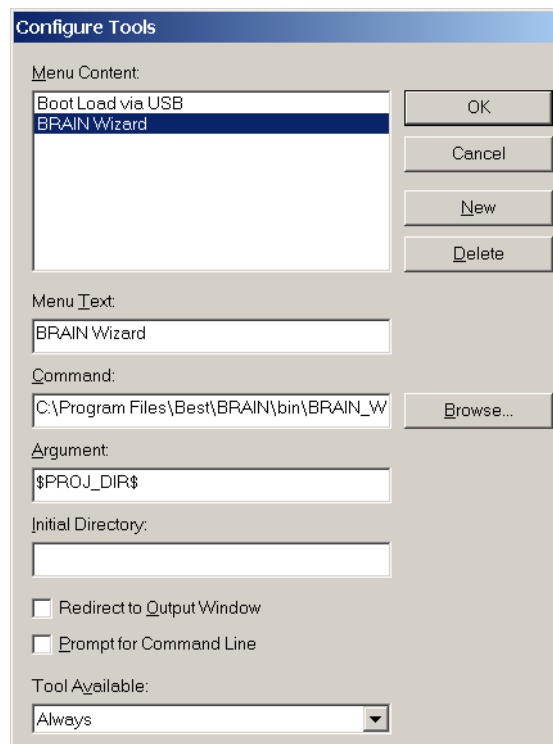

Figure 7.5. Completed IAR Configure Tools Dialog for Wizard Configuration
6. Once the dialog box looks like that shown in Figure 7.5, click the “OK” button to complete the definition of the Tool item.